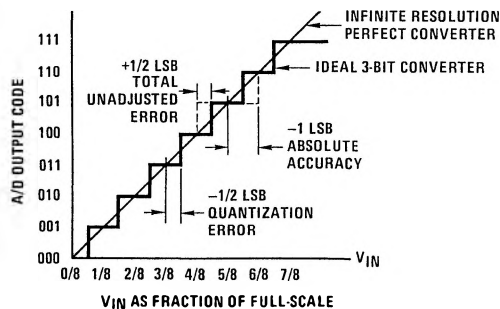
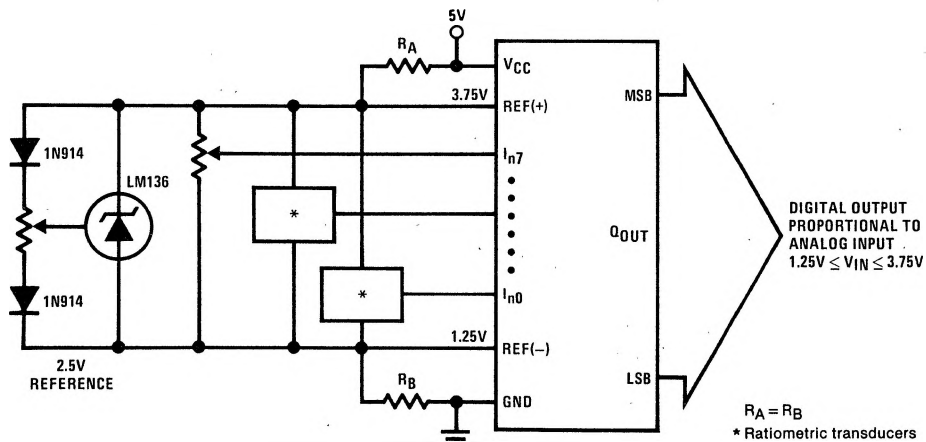

FIGURE 3. 3-Bit A/D Absolute Accuracy Curve
FIGURE 13. Symmetrically Centered Reference
**Note 5:** Total unadjusted error includes offset, full-scale, linearity, and multiplexer errors. See Figure 3. None of these A/Ds requires a zero or full-scale adjust. However, if an all zero code is desired for an analog input other than 0.0V, or if a narrow full-scale span exists (for example: 0.5V to 4.5V full-scale) the reference voltages can be adjusted to achieve this. See Figure 13.
The top and bottom ladder voltages cannot exceed  $V_{CC}$  and ground, respectively, but they can be symmetrically less than  $V_{CC}$  and greater than ground. The center of the ladder voltage should always be near the center of the supply. The sensitivity of the converter can be increased, (i.e., size of the LSB steps decreased) by using a symmetrical reference system. In Figure 13, a 2.5V reference is symmetrically centered about  $V_{CC}/2$  since the same current flows in identical resistors. This system with a 2.5V reference allows the LSB bit to be half the size of a 5V reference system.